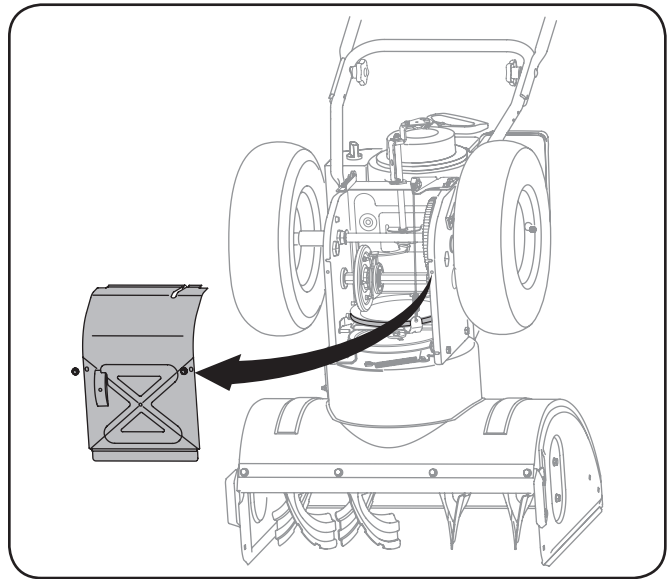

Figure 8-8
3. Remove the frame cover from the underside of the snow thrower by removing four self-tapping screws which secure it. See Fig. 8-8.